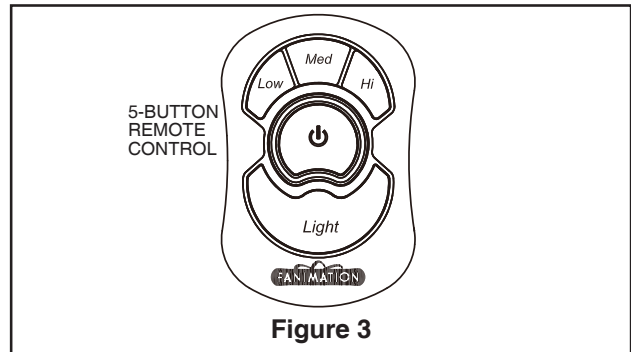

Figure 3
- ☐ 3. The 5-button hand-held remote transmitter includes buttons for high, medium and low fan speeds as well as fan off and light on/off. (Figure 3)